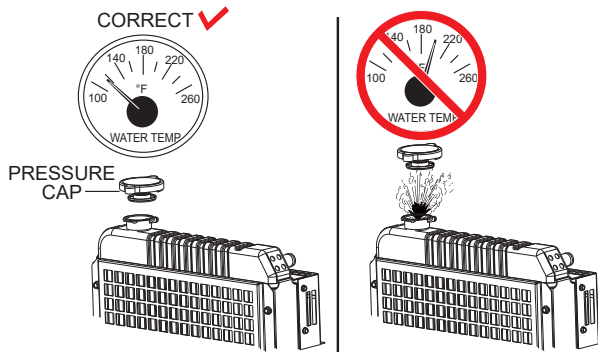

Figure 58. Radiator Pressure Cap Removal
- Remove the **radiator pressure cap** (Figure 58) only when the coolant temperature is below 120°F (50°C).